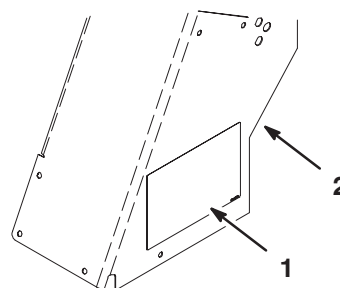

Figure 6
17. Affix a new service decal (Fig. 6) over the existing decal on the side of the console cover as follows: